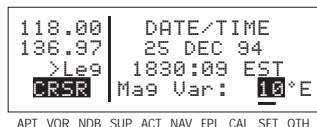

Figure 5-47
2. Move the cursor over the numerical field on line 4 (figure 5-47).